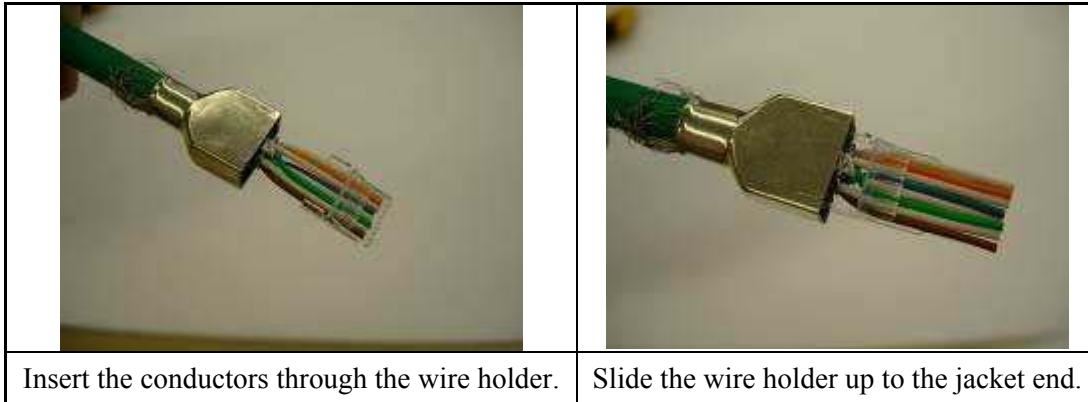

Figure D-12: Cable Positioning, Insert Wire Holder
4. Insert the conductors through the wire holder and slide it up to the end, as shown in Figure D-12.